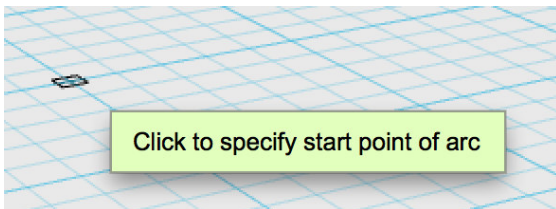

Figure 4-65 The radius of the arc of two points
4. Click again or type in your radius to specify where you'd like the arc to start (Figure 4-65).